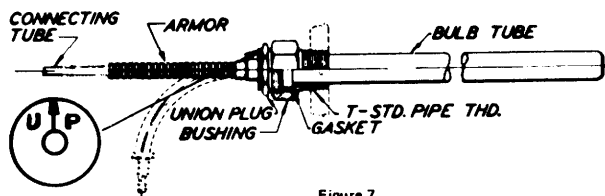
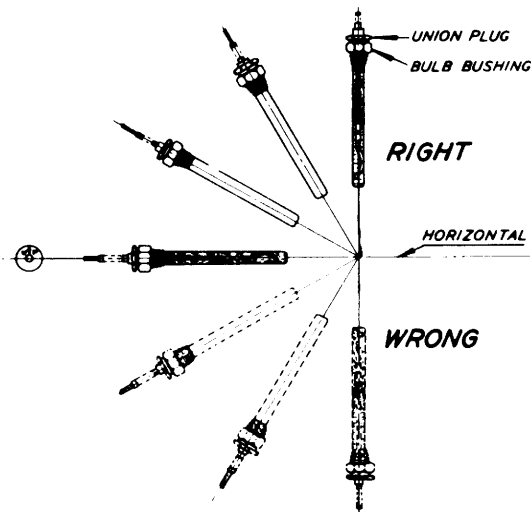

Figure 7
Figure 8
The bulb for liquid control is of smooth tubular form with I.P.S. threaded bulb bushing as shown by Fig. 7. To install this bulb, loosen union plug until the bulb bushing turns freely on the bulb. Insert bulb and bushing into the selected opening and screw the bulb bushing up tight. Turn the bulb until arrow on head plate points UP. Tighten union plug. Bulb bushing can be removed from bulb by screwing union plug all the way out and in like manner bulb may be removed from installed position without disturbing bulb bushing.
Fig. 8. Unless specifically ordered for such installation, the bulb should never be installed with the bushing end down or below the horizontal position. See "WRONG."
The bulb is an externally finned type for greater sensitivity. Bulb should be installed at right angle to the air movement and at a location where average temperatures are encountered. See Figs. 27, 28 and 30. Preferably, the bulb should be installed horizontally, but it may be installed vertically or at any angle between these positions providing the tube end is uppermost—never install bulb with tube end down unless specifically ordered for such installation. See Fig. 8. Bulbs have a plate attached (See Fig. 7) to the tube end indicating that the bulb should be installed with the arrow pointing upward when the bulb is installed in any position "RIGHT."
To install, insert well into the selected opening and tighten. Insert bulb in socket and tighten union plug (Fig. 7). Be sure arrow is pointing up as plug is tightened.
1. Remove regulator bulb from its location by screwing union plug (Fig. 7) all the way out.